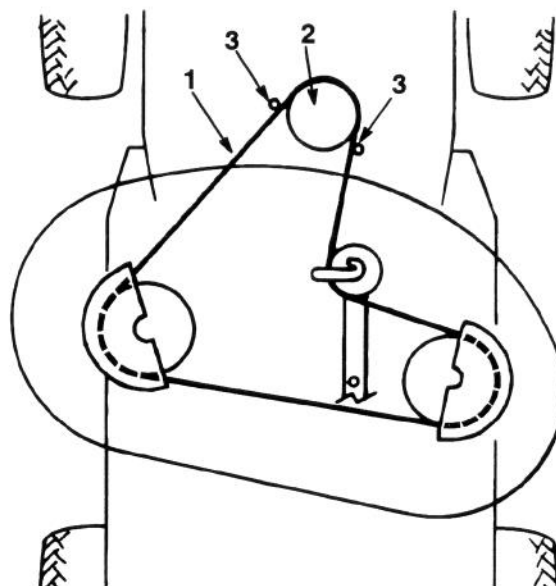

Figure 42
10. Remove the mower belt from the lower engine pulley (Fig. 42). If you are careful, you can flex the belt guide(s) just far enough away from the pulley to remove the belt. If it is too difficult to remove the belt, loosen the bolts and nuts securing the belt guides.
4. Install mower belt onto the lower engine pulley (Fig. 42). If you are careful, you can flex the belt guide(s) just far enough away from the pulley to install the belt. If it is too difficult to install the belt, loosen the bolts and nuts securing the belt guides.